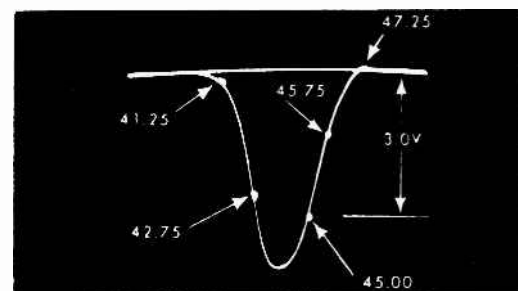

Fig. 5 Overall IF Response
8. Adjust the first IF bottom core (44.Mc), second IF (42.75 Mc), third IF (45 Mc), and converter plate coil to obtain a response similar to Fig. 5.